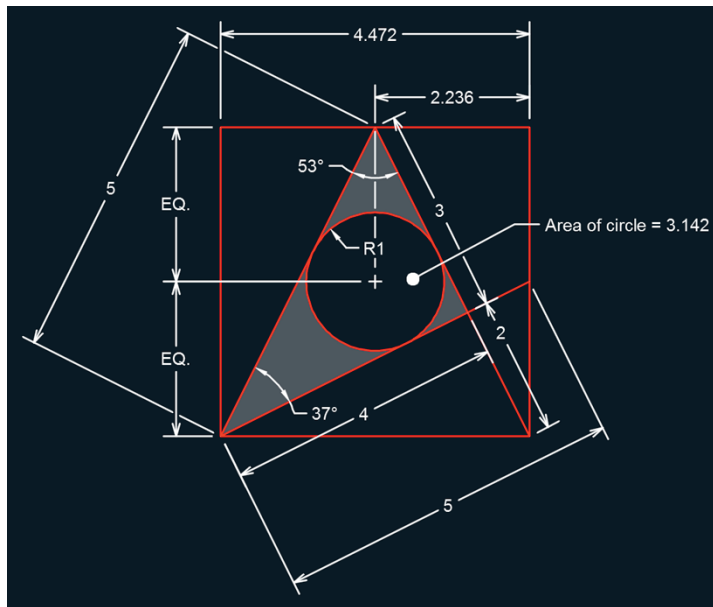

FIGURE 11.24 Using DIMBREAK to clean up overlapping dimension objects
10. Press Enter to accept the default Auto option, and the DIMBREAK command ends. Breaks are made in the selected dimensions where they cross other objects (see Figure 11.24).